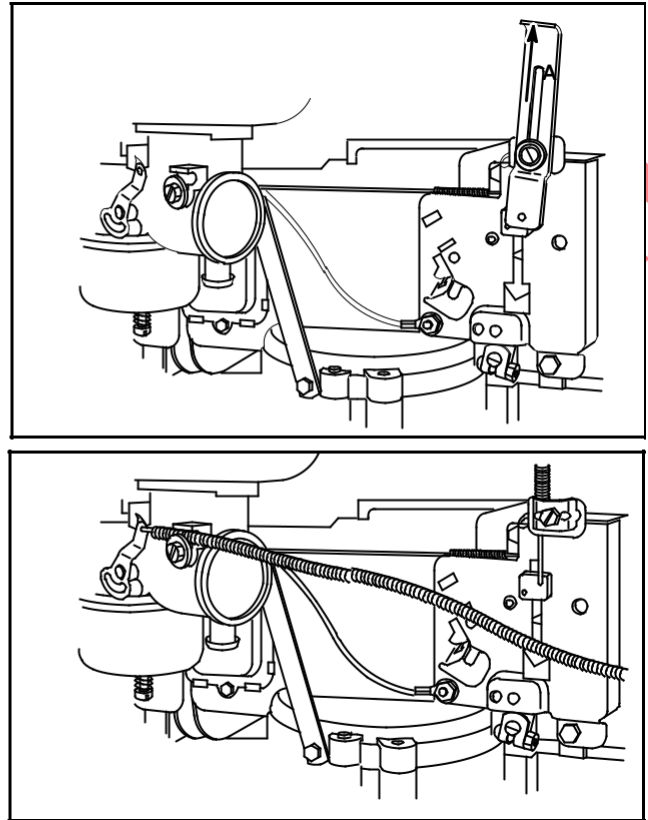

Fig. 107
Model Series 170700, 190700, 191700, 192700, 193700, 220700, 252700, 253700, 280000 Vertical Crankshaft with Rack & Pinion Control Except Model 286700 Move as shown (A) to increase speed, Fig. 107.